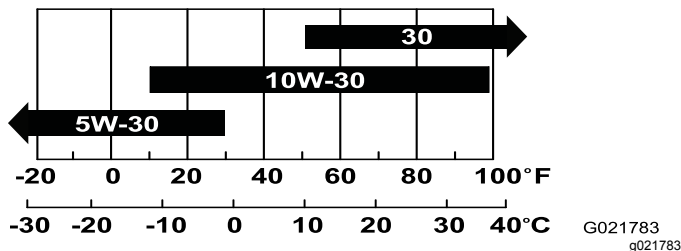

Figure 18
**Note:** Use SAE 10W-30 for general use. You can use the other viscosities shown in the chart when the average temperature in your area is within the indicated range (Figure 18).